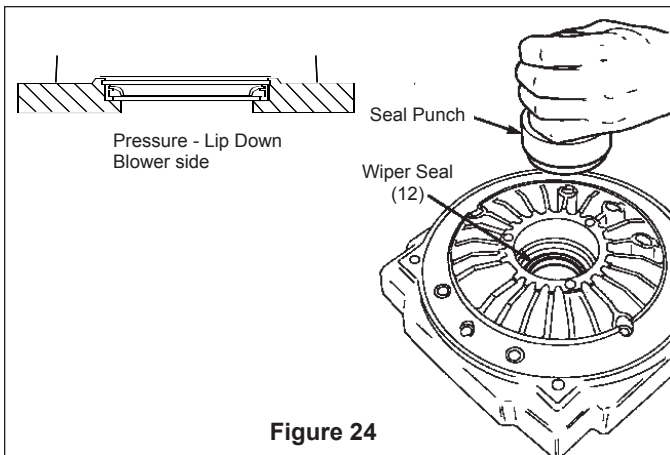

Figure 24
- Lay sideplate face down on a firm, flat clean surface. The surface must be smaller than the sideplate, and not touch the rim. Using a properly sized seal punch, tap in a new wiper seal (12) to the full depth of the recess with the **lip down**, facing the rotor, for **Pressure Use**. See Figure 24.